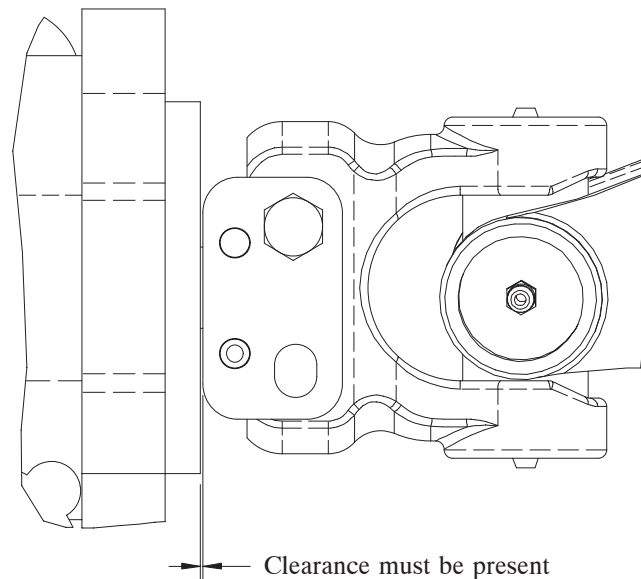

Figure 2
5. Pull the driveshaft away from the pump to provide clearance between the pump pilot surface and the driveshaft keeper surface (Fig. 2).